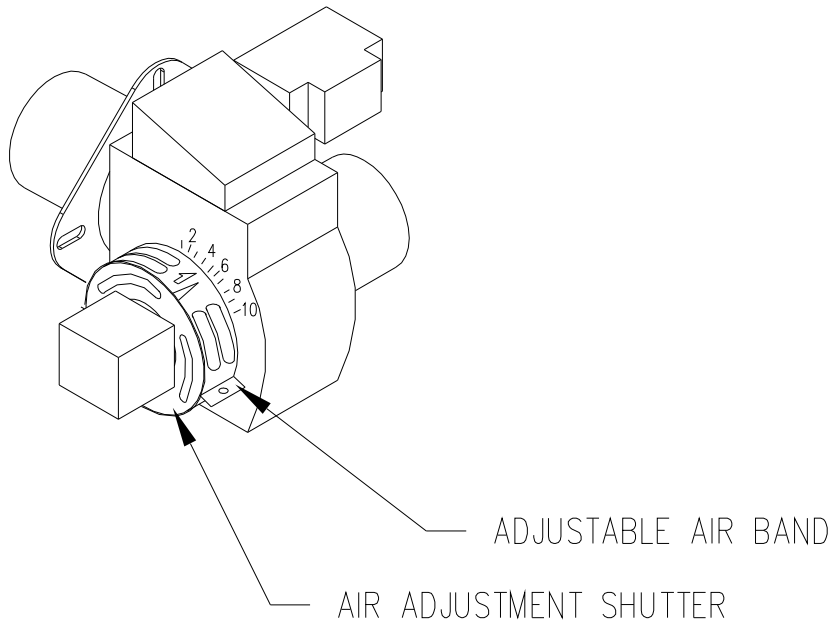

Figure 19: Preliminary Adjustment of Burner Air Band and Air Shutter
- i. When ignition is established, make a preliminary burner air adjustment to attain a clean combustion flame. Generally, the burner bulk air band should be about 3/16 inch open and the opening of the burner air shutter set in the range of "2" to "7", refer to Figure 19.